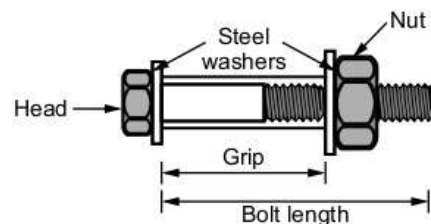

Fig. Q.12.1 Bolted assembly
- 1) A bolt is a sort of threaded pin with head at one end and threads on other of the shank to receive nut as shown in Fig. Q.12.1